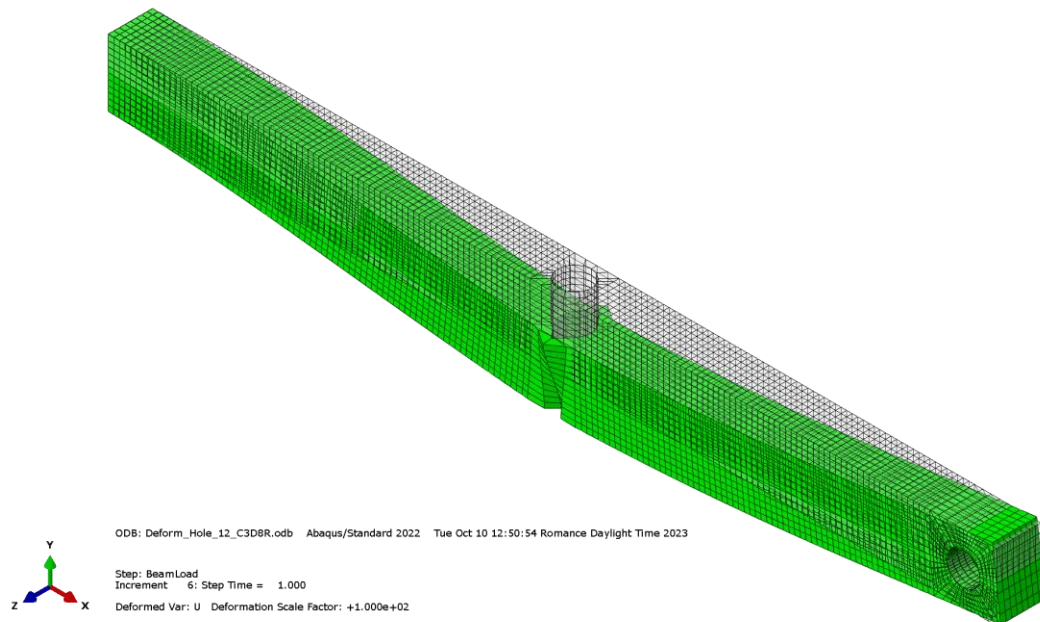

Figure 7: Displacement scale factor: 100.
- 1) Figure 7 shows the deformed shape on top of the undeformed shape.
The hourglass modes are also clearly visible in Figs. 7 and 8. These modes are observed as element distortions in the vicinity of the centre hole, i.e., modes leading to zero strain energy in linear elements. Thus, no stresses are created within the element. There are 12 hourglass modes for a brick element, i.e., 4 modes for each of the 3 coordinate directions. They produce linear strain modes, which cannot be accounted for using a standard one-point integration scheme. To correct this phenomenon, it is necessary to introduce anti-hourglass forces and moments or use selectively reduced integration (element type C3D8 in Abaqus).